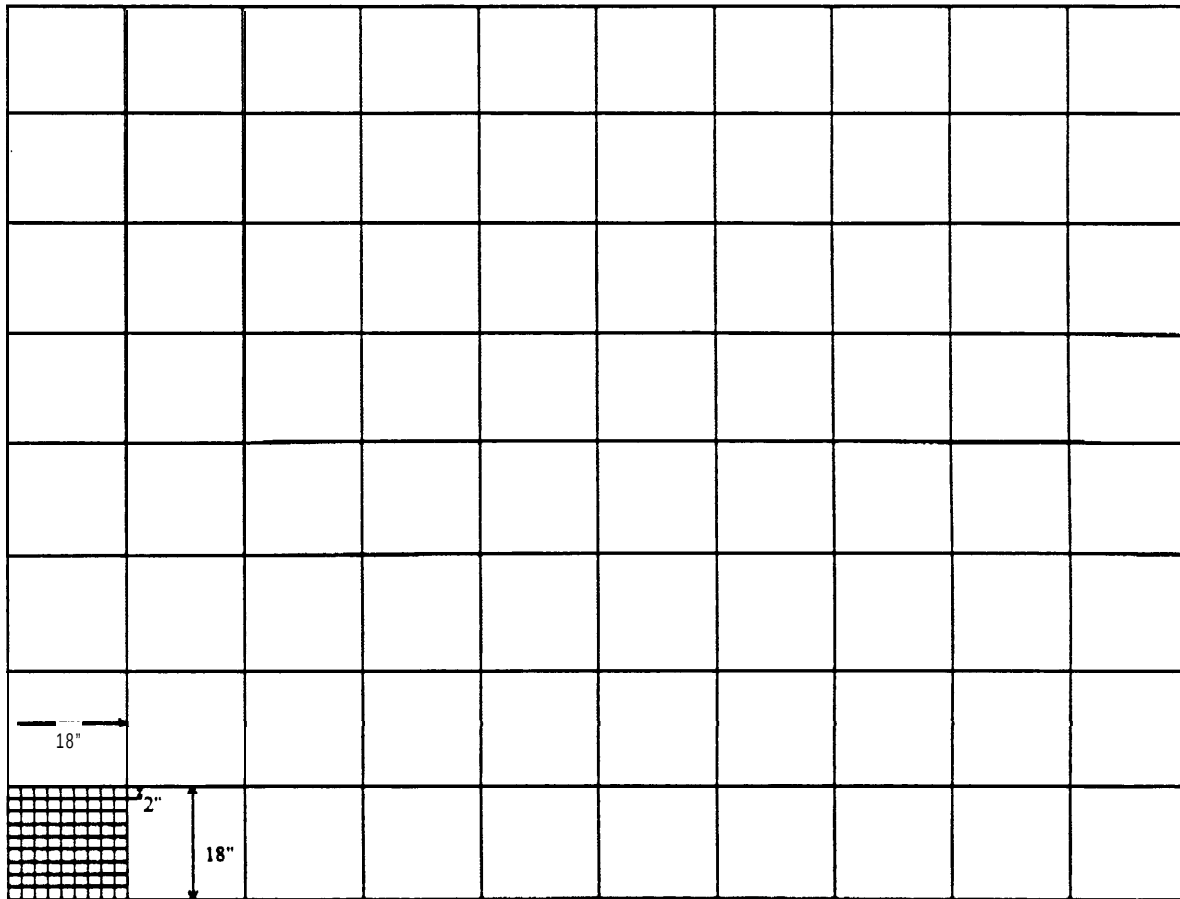
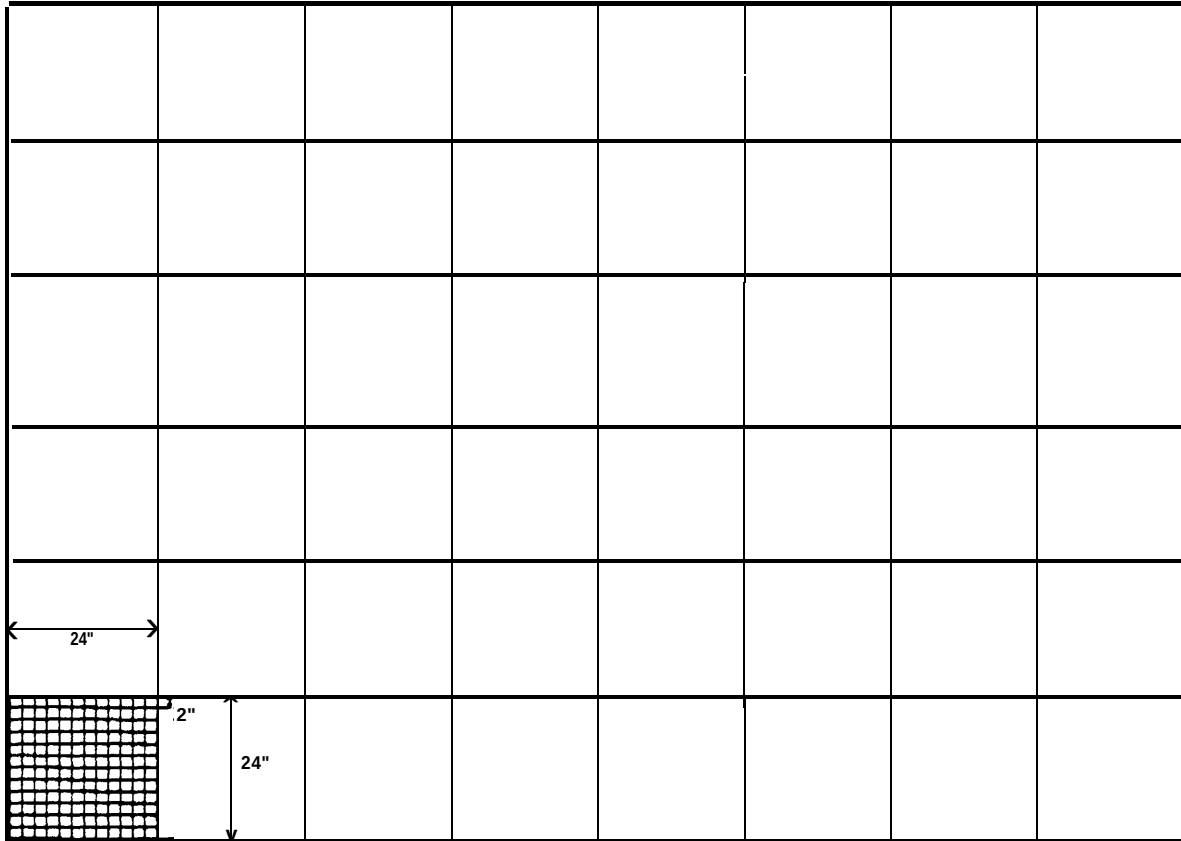
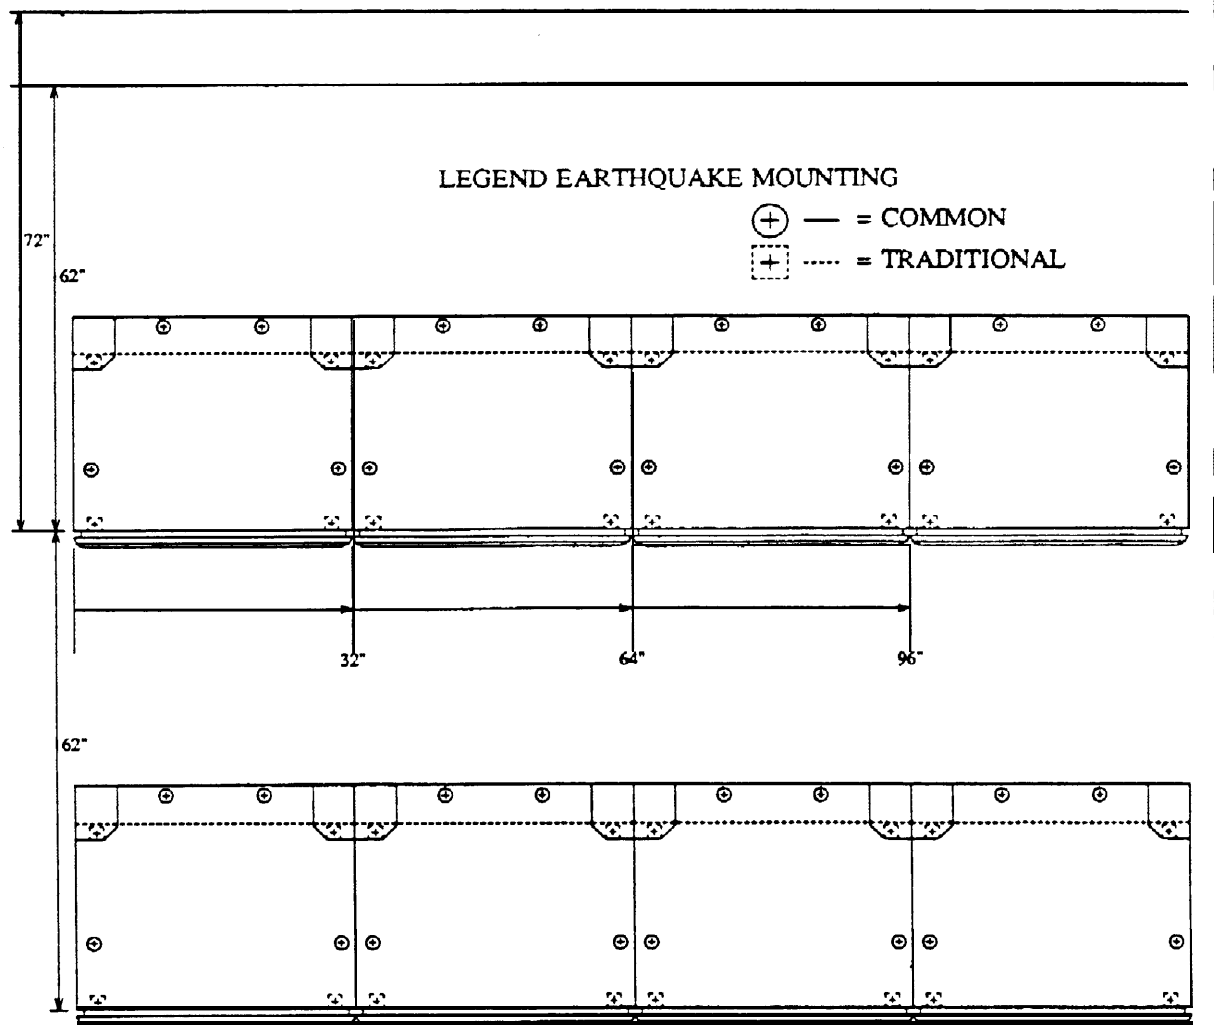

Figure 2-14. Floor Template - 18 Inch Tile (L472366)
Figure 2-15. Floor Template - 24 Inch Tile (L472367)
Figure 2-16. Floor Template - Cabinet Lineup (L472368)
- Modification of the floor tiles. Cutouts in floor tiles will have to be made to accommodate the MDF. Discuss this with the customer. Contact the National Engineering Center (NEC) regarding final requirements for cutouts in floor tiles. See figure 2-14, *Floor Template - 18 Inch Tile (L472366)*, figure 2-15, *Floor Template - 24 Inch Tile (L472367)*, and figure 2-16, *Floor Template - Cabinet Lineup (L472368)*.